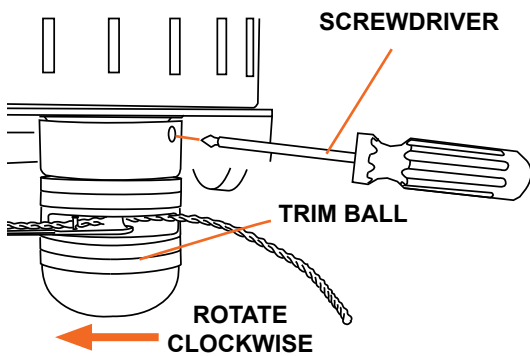

Figure 10
1. Align the hole in the anti-wrap canister with the hole in the internal housing at the location shown (Figure 10).
5. Insert the screwdriver as shown in Figure 10 and tighten the assembly securely by turning the trim ball counterclockwise when looking down on the top of the frame.